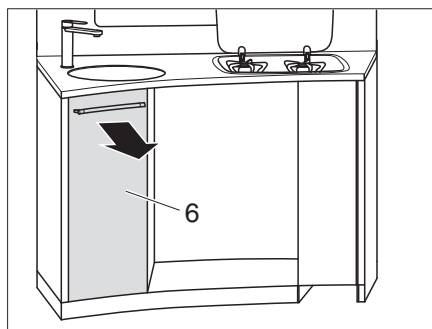

Fig. 124 Removing high kitchen drawers
- Remove the high kitchen drawer (Fig. 124,6).